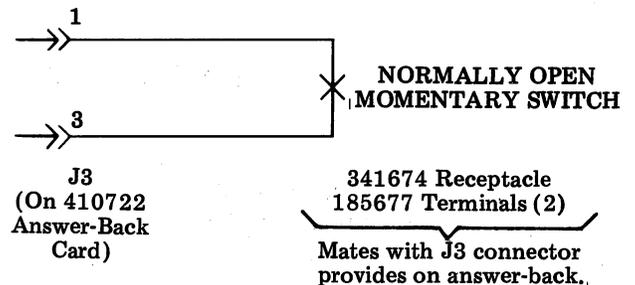

Fig. 31—External Switch
4.86 If an installation requires manual initiation of the answer-back sequence, a locally supplied cord (Shielded Recommended) and switch may be used as shown in Fig. 31.